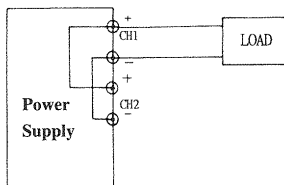

Fig. 5-5 Parallel Tracking Operation
G. Connect the negative connection of the device being powered to the black (-) terminal of the CH1 power supply. The configuration is shown as Fig. 5-5: